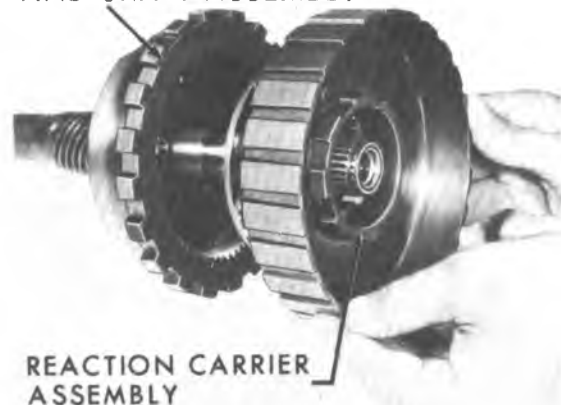

Figure 7A5-35 Removing Output Carrier Assembly
16. Remove reaction carrier assembly, output ring gear, shaft assembly, and clutch plates from case. (Figure 7A5-35)